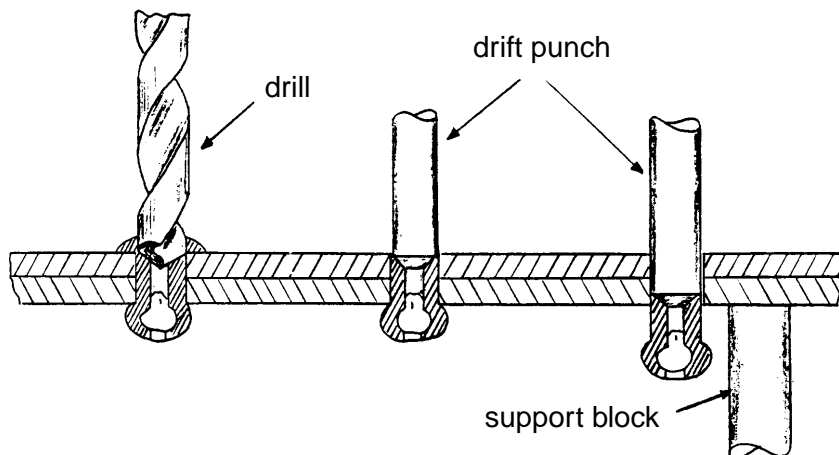

Figure 6 - Removal of Installed Rivet
5.6.1 If necessary, remove installed pop rivets as follows (see Figure 6):